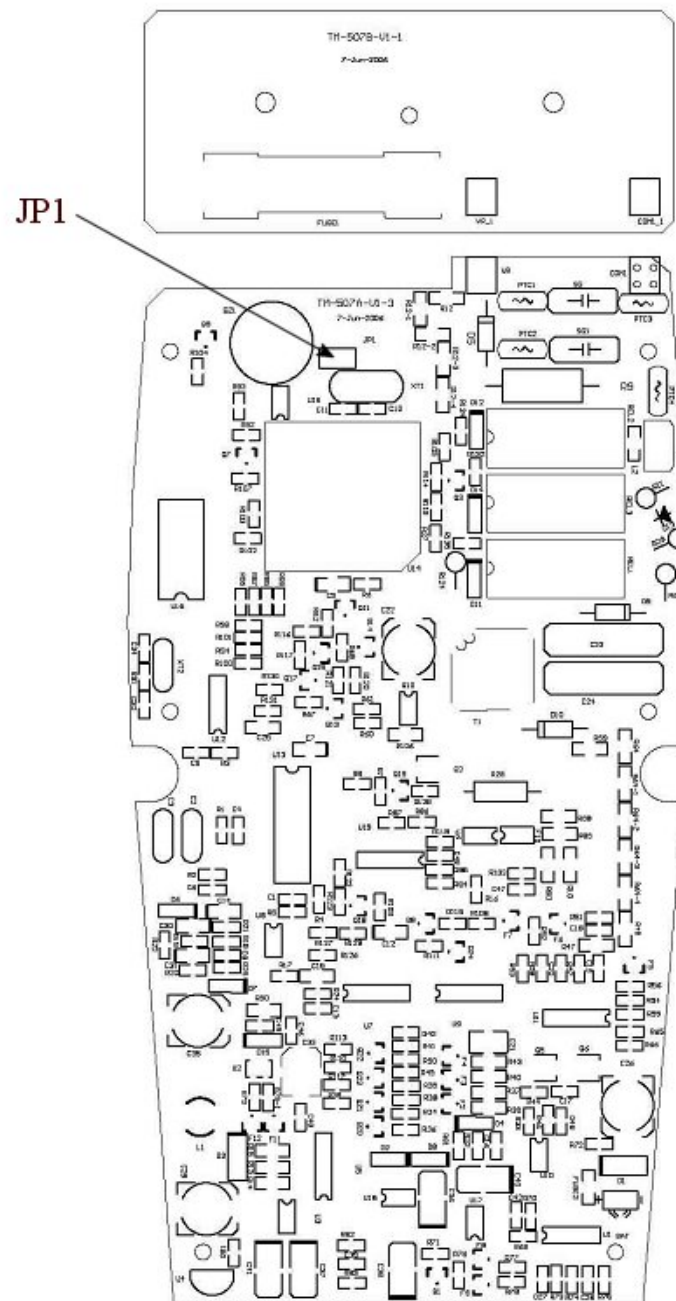

Figure 1
5. Short JP1, then replace the case bottom and battery compartment cover. (*Refer to Figure 1*)
13. Remove the case bottom and remove the short on JP1. (*Refer to Figure 1*)